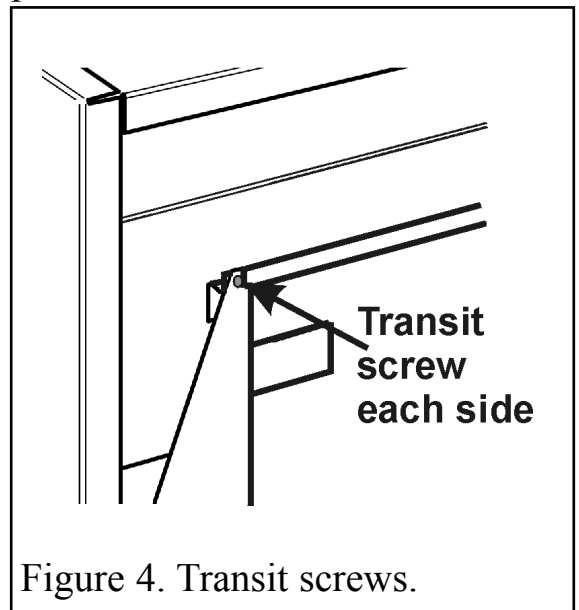

Figure 4. Transit screws.
5.3.2 Remove the two transit screws from near the top of the back panel wings. See figure 4.